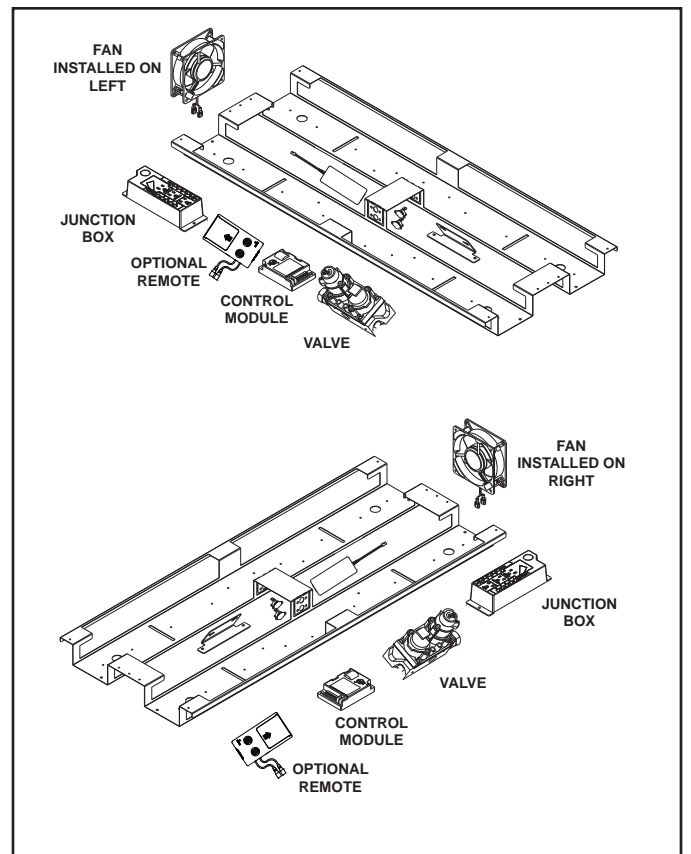

Figure 12.3. Controls Location Diagram
**Note:** If the fan is moved from one side to the other, the junction box must also move. See appropriate configuration in relation to the valve in Figure 12.3. The valve does not move.